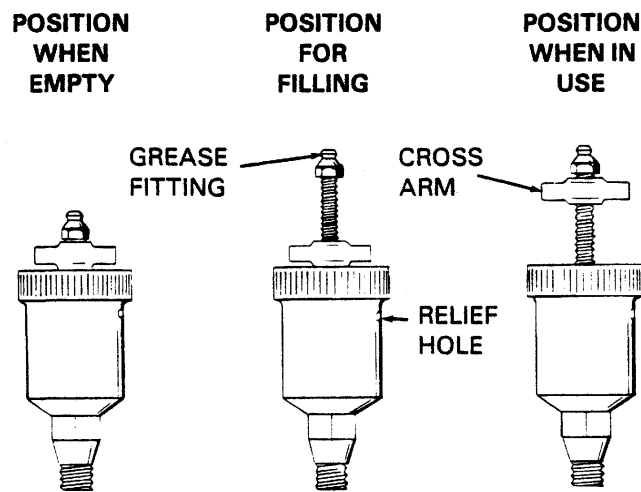

Figure 3. Automatic Lubricating Grease Cup
Before removing the seal assembly, turn the cross arm on the seal grease cup (7) clockwise until it rests against the cover (see figure 3). This will prevent the grease in the cup from escaping after the seal is removed.
Before starting the pump, fill the seal grease cup through the grease fitting with a good grade of No. 2 pressure gun grease until grease escapes from the relief hole. Turn the grease cup arm counterclockwise until it is at the top to the stem; this will release the spring to apply grease to the seal (see figure 3).